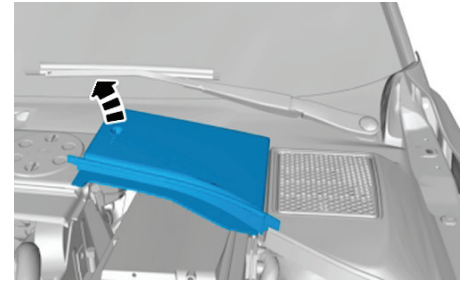

Fig. 2 Side panel cover removal
6. Remove side panel cover, Fig. 2.
5. Install side panel cover, Fig. 2.